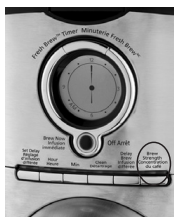

Figure 7
2. To enjoy a more full flavored cup of coffee, press the **Brew Strength** button once. The **STRONG** Brew Strength amber light will turn on. The coffeemaker will remain in the Brew Strength you have selected until you change it back to **REGULAR** strength by pressing the **Brew Strength** button or until you unplug the machine (Figure 7).